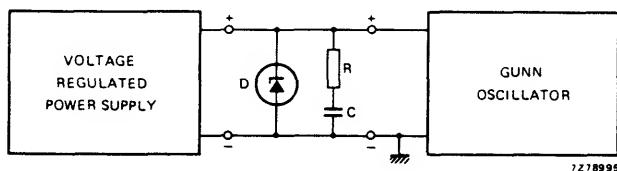

Fig. 3 Bias configuration for stable Gunn oscillator.
3. It is recommended that an RC filter be connected in parallel with a voltage regulator diode across the oscillator supply voltage terminals. The filter prevents low-frequency bias supply oscillations, while the regulator diode protects the Gunn diode from over voltage. See Fig. 3.